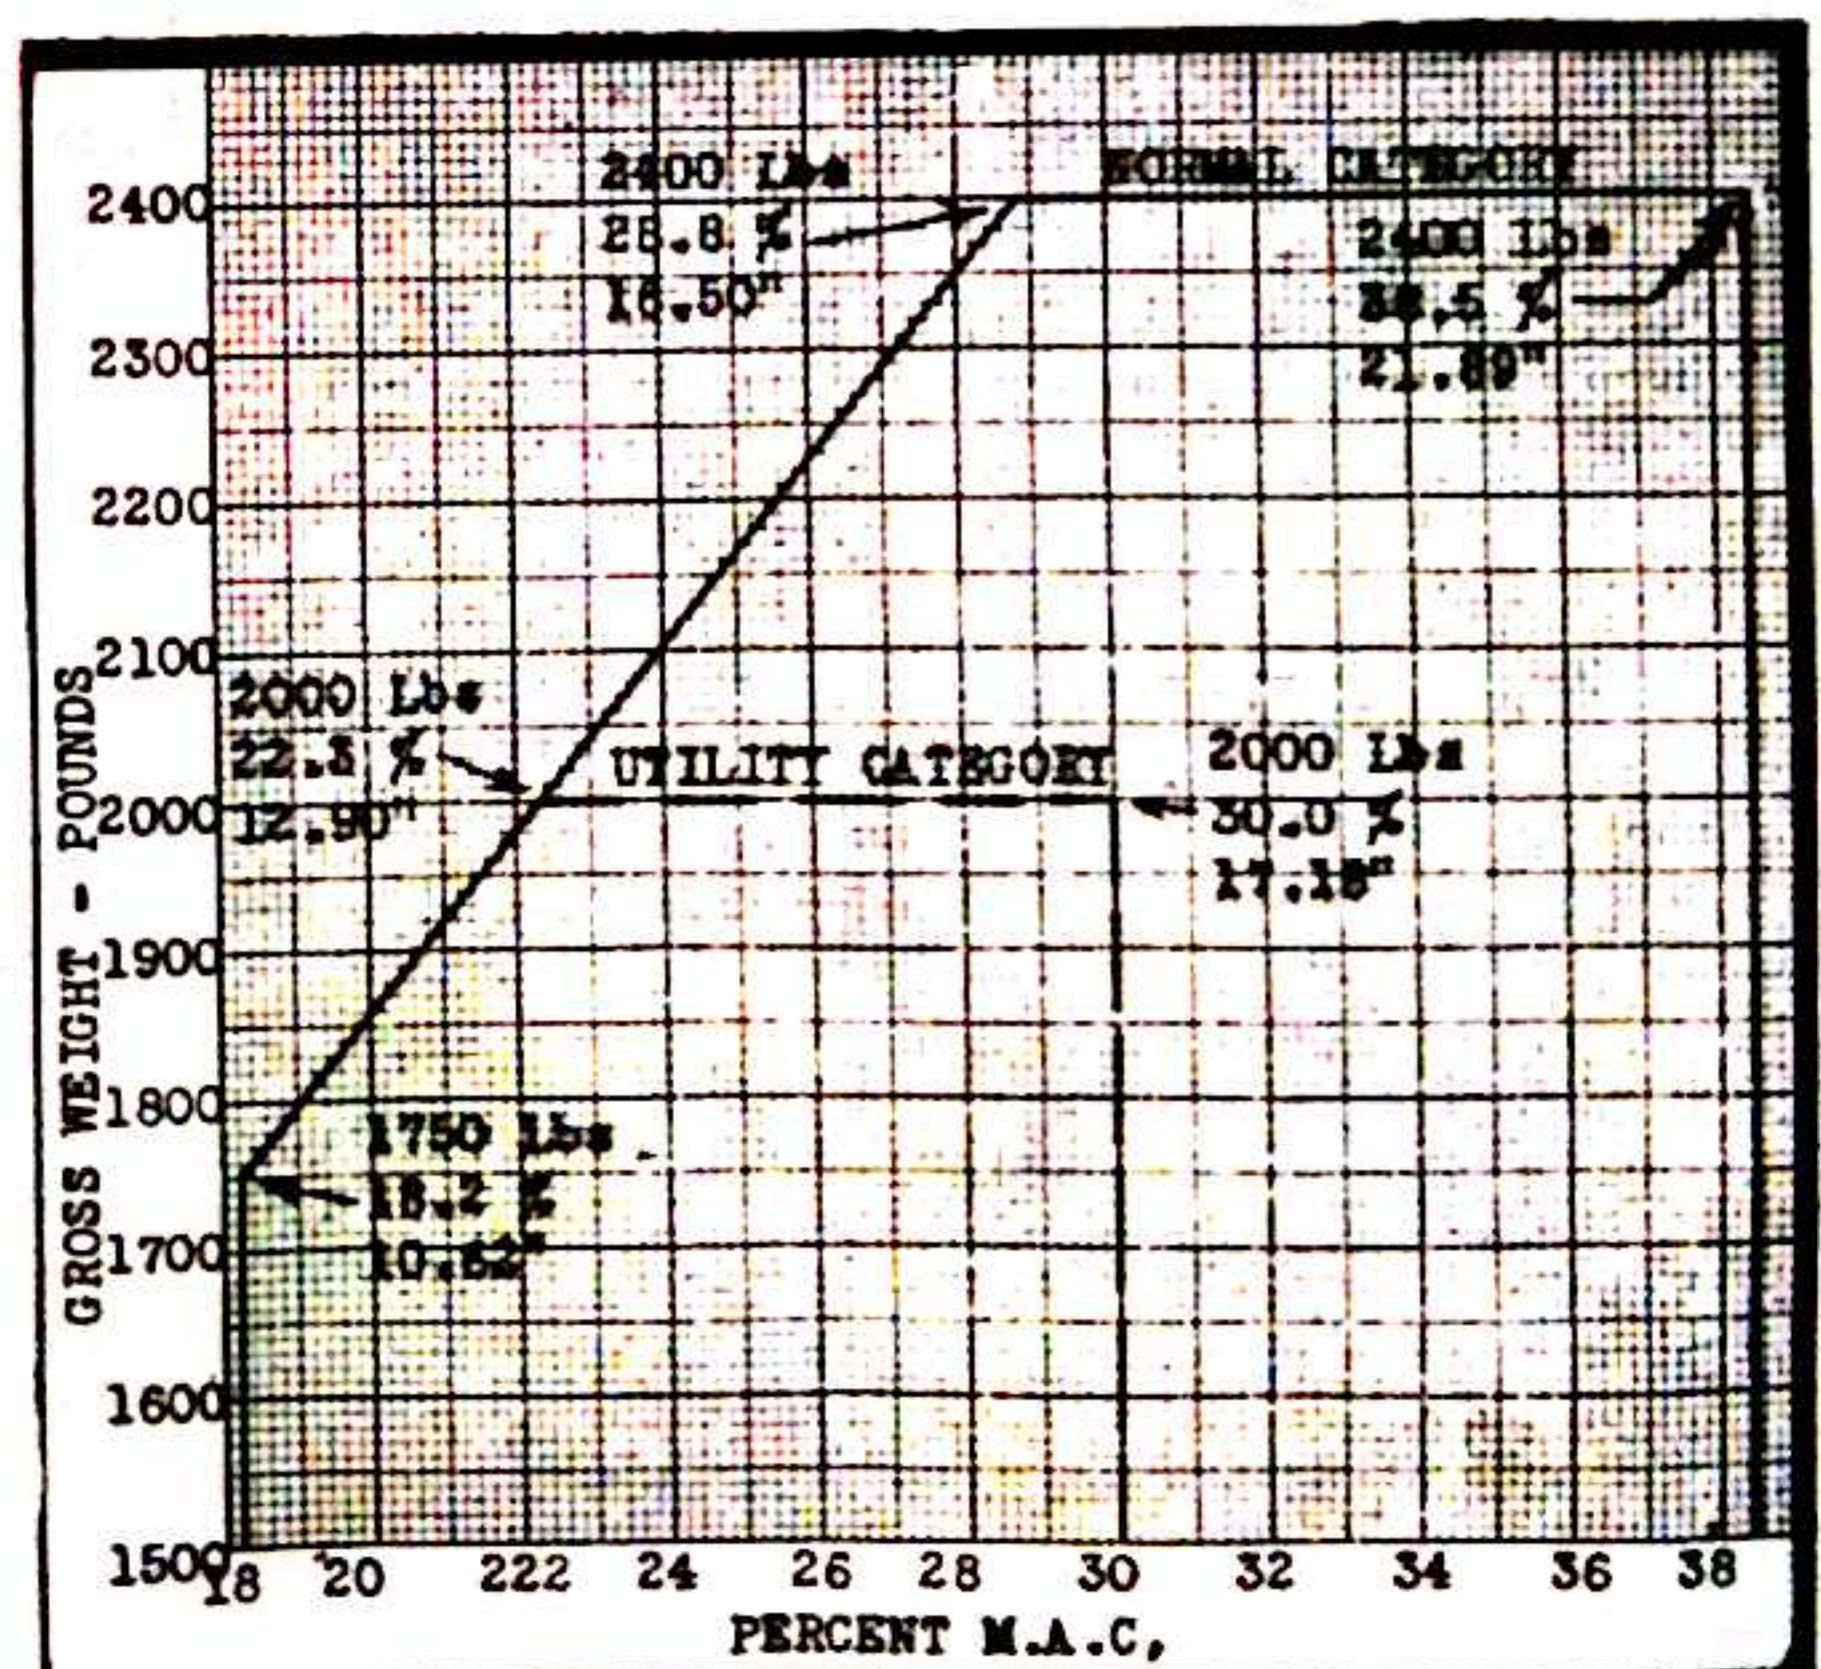

Figure 1 - Center of Gravity & Gross Weight Limitations
7. CENTER OF GRAVITY LIMITS. (See Figure 1.)